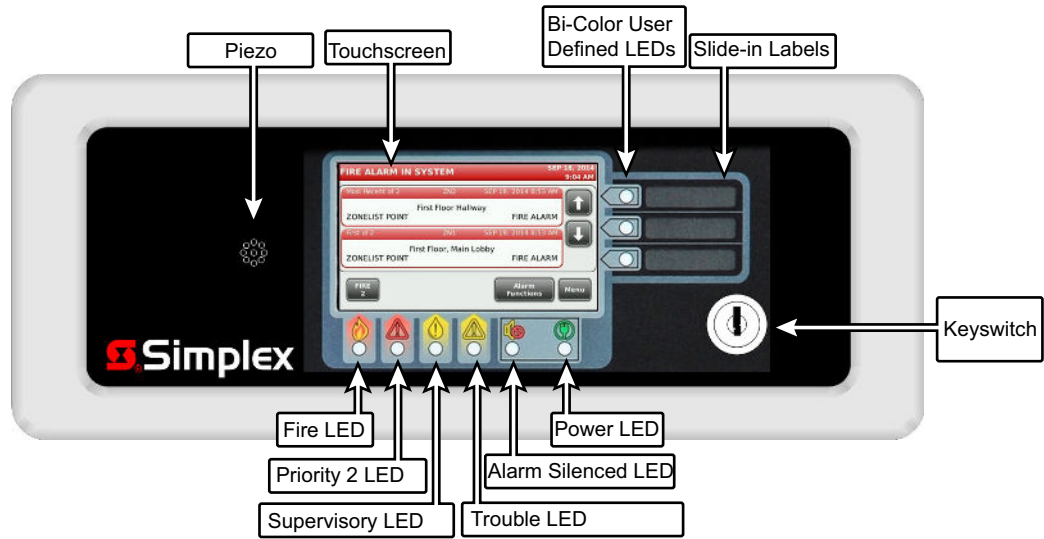
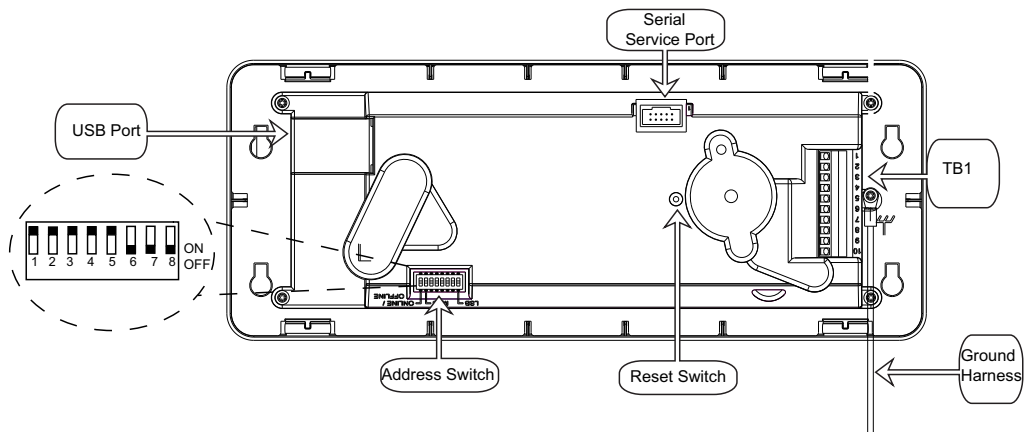

Figure 1. Remote Annunciator Front View
Figure 2. Remote Annunciator Back View
Refer to Figure 1 for the remote annunciator front view and to Figure 2 for the back layout.
2. Connect the ground harness (see Figure 2) to the metal back box's Earth ground.